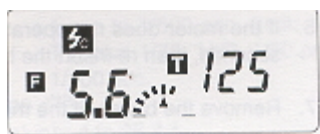

Fig. 19
4. Press the measuring switch to produce a flash and display the F value (Fig. 19).